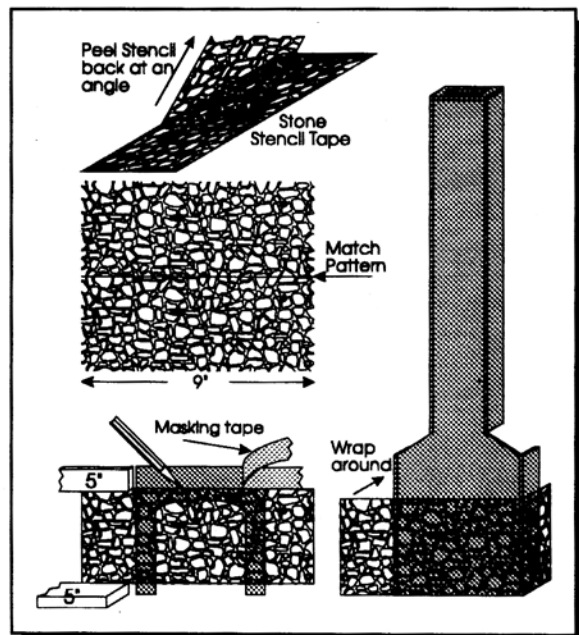

Figure 25- Stone Fireplace and Chimney
e. Trace lines at the top and bottom of the fireplace where the wooden mantle pieces will go and mask the area above and below the lines. This tape will prevent the Stone Mix from getting on the fireplace in these areas so the mantle parts will glue in place flat. Figure 25.
f. Peel one length of Stencil from the backing leaving behind the stone shapes. Stick Stencil to the Fireplace. Press firmly for full contact. Peel another length of Stencil. Repeat and make sure to align the bottom edge of the length currently being applied with the top edge of the previous length. Figure 25